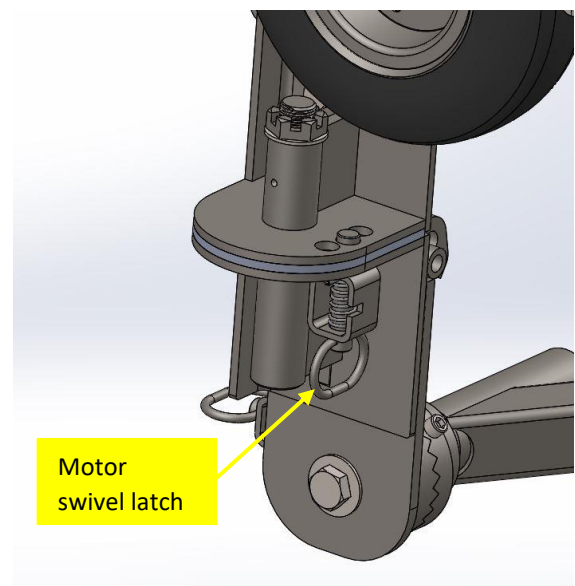

Figure 8
HYDRA FIGURE 8 OPERATION MANUAL
This manual will assist you in the operation of the **Hydra Figure 8** unit. Thoroughly read the manual to familiarize yourself with the safe operation of the unit.
1. From the stowed position, rotate the **Hydra Figure 8** unit to Position 2 by unlocking the pin on the pivot base and re-lock into place. **Figure 1**
WARNING: To prevent accidental injury or loss, keep a firm grasp onto the Figure 8 unit while rotating the pivot base.
3. Unlock the slip clutch pin and rotate the **Hydra** **Figure 8** motor unit up into the operating position by grasping the red handle at the front of the idler wheel mount and re-lock the pin.
4. Unlock the pivot base pin and swivel the **Hydra Figure 8** unit to the stop and re-lock the pin. **Figure 5**
10. Connect the quick couplers to the Reel Lift toolbox and operate the **Hydra Figure 8** by the Tool Circuit lever pulling the lever towards the operator.
11. The **Hydra Figure 8** unit can be swiveled left and right to help form the figure 8 patterns in the cable by releasing the motor swivel latch and using the handle. The latch can be locked into place so it can be freely moved left and right or locked into one of three positions depending on the user's preference. **Figures 8 & 9**
12. To stow the **Hydra Figure 8** unit for transport, remove the PVC cable guides and reverse steps 1 through 4.
The **Hydra Figure 8** braking system is utilized by the wheel of the **HydraWinder** coming into contact with the reel. This is achieved by pushing the Tool Circuit lever fully forward. The reel will come to a complete stop preventing the cable from backlashing. If a more gradual stop of the reel is preferred, the speed can be adjusted by turning the **HydraWinder** needle valve control.